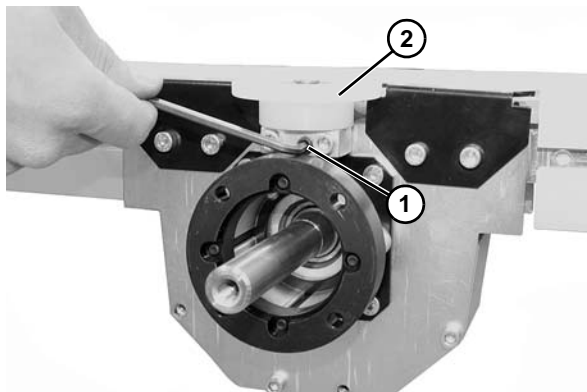

Figure 141
2. Loosen set screw (**Figure 141, item 1**) and remove belt hold down wheel (**Figure 141, item 2**).